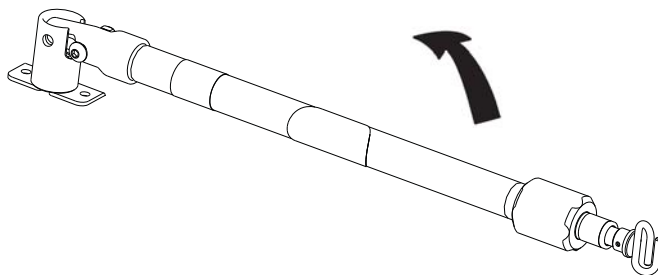

Figure 47.1: 2-Stage I.V. Pole Storage Position
1. Lift and pivot the pole from the storage position and push down until it is locked into the receptacle (A).
2. To raise the height of the pole, turn the lock actuator (B) counterclockwise and pull up on the telescoping portion (C) of the pole to raise it to the desired height.
3. Turn the lock actuator (B) clockwise to lock the telescoping portion in place.
4. Hang the I.V. bags on the I.V. hook (D).
5. Turn the lock actuator (B) counterclockwise and slide section (C) into the bottom tube.
6. Turn the lock actuator (B) clockwise to tighten.
7. Lift up and pivot the pole down into the storage position (see Figure 47.1).